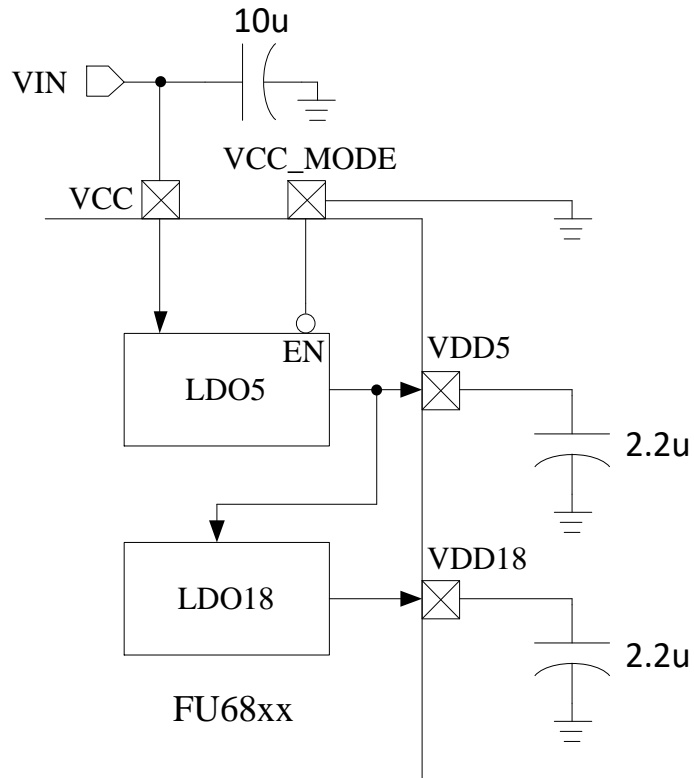

Figure 31-3 High-voltage Single-power Supply Mode
- High-voltage Single-power Supply Mode ($VCC_MODE = 0$): $VCC = 5 \sim 24V$. See Figure 31-3 for details.